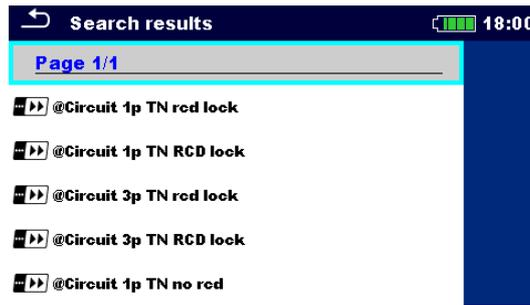
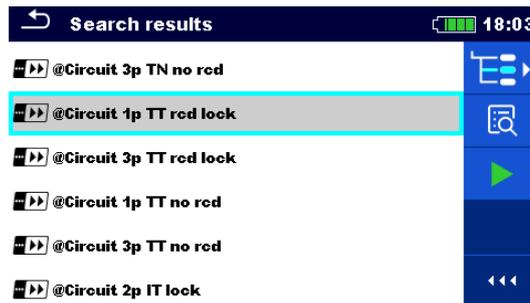

Figure 8.2: Search results screen – Page view
Figure 8.3: Search results screen with Auto Sequences® selected
| ④ |  | Searches through the Auto Sequences® menu according to the set filters. The results are shown in the Search results screen presented on Figure 8.2 and Figure 8.3 . |